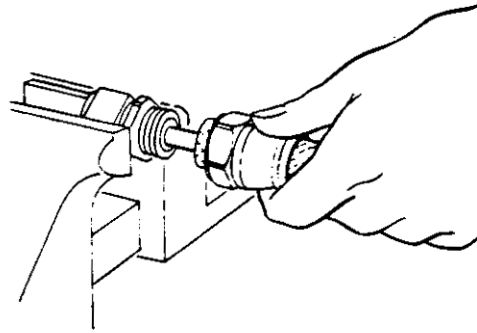

Figure 16. Sizing Tube to Sleeve
Step 5. Size tube to sleeve. Size tube to sleeve by pushing hose onto the nipple until the sleeve bottoms against the nipple chamfer. Remove and recheck to be certain that the sleeve is still properly positioned. Again push hose onto the nipple until the sleeve is bottomed against the nipple chamfer. (See Figure 16.)